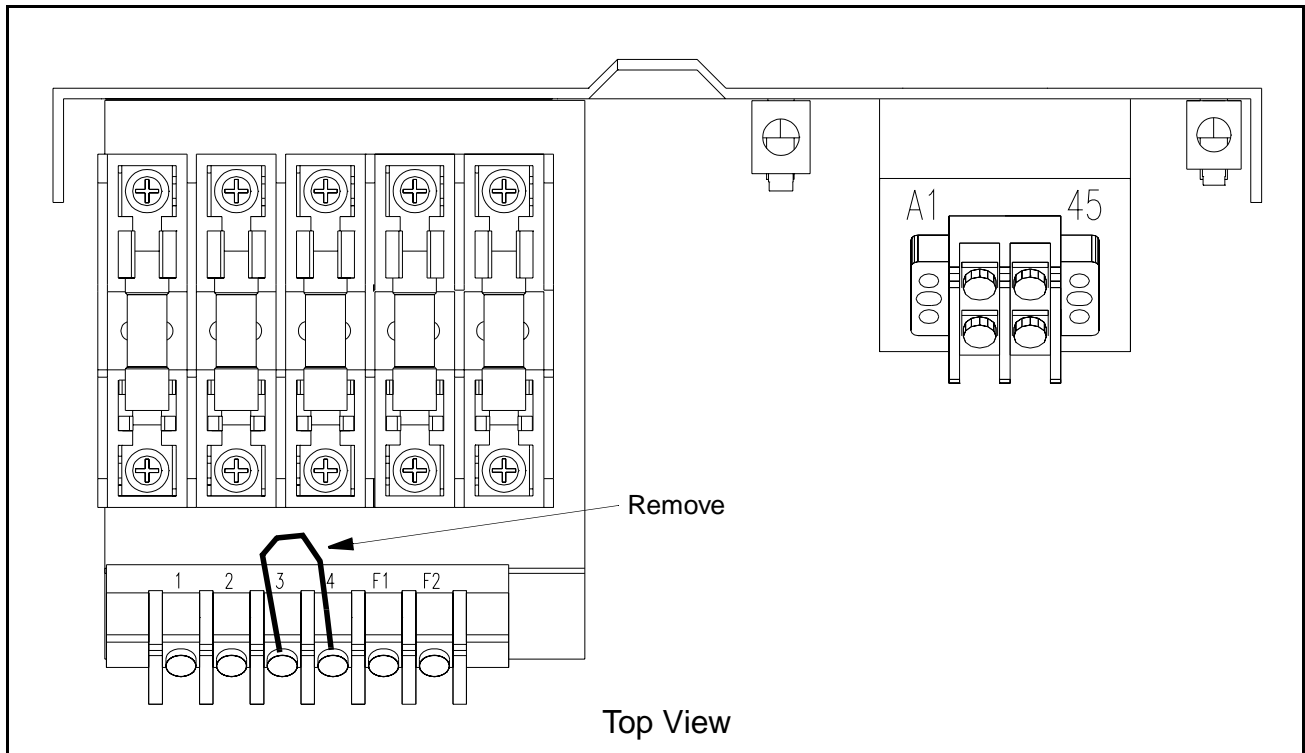

Figure 4 – Field/DB Terminal Block
Step 9. Remove the jumper (terminals 3 to 4) from the field/DB terminal block on the drive. See figure 4.